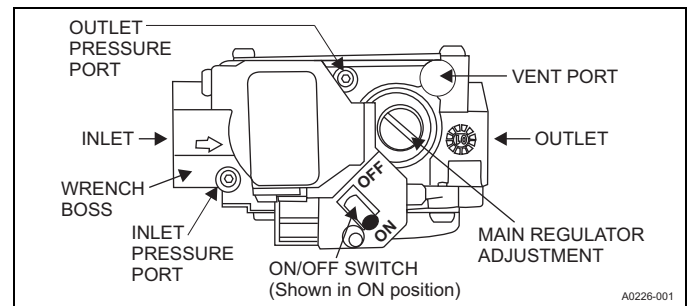

FIGURE 3: Single Stage Gas Valve
5. Move the gas control switch to the OFF position. Do not force. See Figure 3.
7. Move the gas control switch to the ON position. Do not force. See Figure 3.
4. Move the gas control switch to the OFF position. See Figure 3.
2. Check that the manual gas shut-off valve in the gas piping supply is turned to the ON position. See Figure 3.
3. Check that the ON/OFF switch on the gas valve is turned to the ON position. See Figure 3.